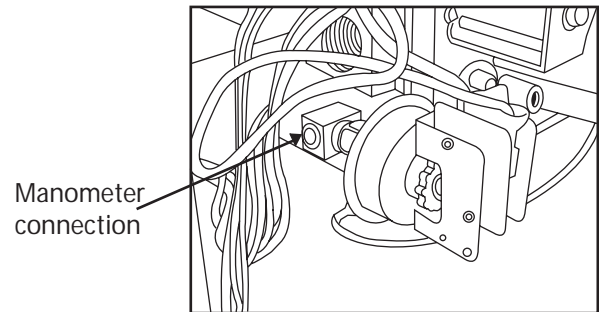

Fig. 61 - LGPS Installed
5. Apply pipe dope sparingly to male end of brass tee. Install propane gas pressure switch (provided in kit) on nipple. After switch has been finger-tightened, use small wrench on base of pressure switch for final tightening. When pressure switch is tight, switch terminals should point as shown in Fig. 61 relative to gas valve and clear control compartment access door.
6. Connect a manometer to the open end of the tee installed in the gas valve. (See Fig. 61).
1. Verify manometer is connected to the brass tee connected to the inlet pressure tap on gas valve. (see Fig. 61).
14. Apply pipe dope sparingly to end of inlet gas pipe plug and install in unused end of 1/8-in. (3 mm) tee. Use a small back-up wrench on tee when tightening gas inlet pipe plug. (see Fig. 61.)